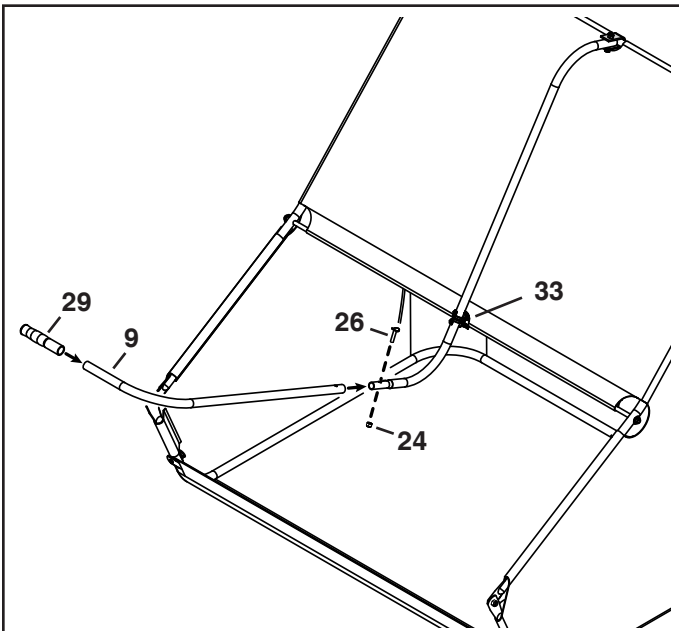

FIGURE 17
STEP 17: (SEE FIGURE 17)
- Slide the handle grip (29) onto the end of the handle tube (9).
- Assemble the handle tube (9) to the dump tube (5) and secure in place with a 1/4" x 1" curved head bolt (26) and 1/4" nylock nut (24).
- Snap the dump handle clip (33) onto the pivot rod.